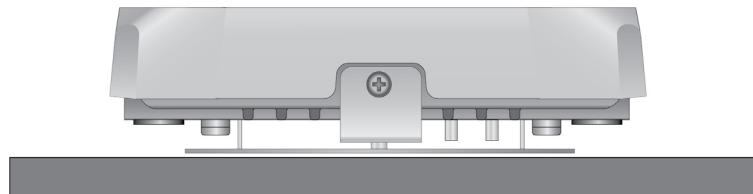

Figure 7. Approved and Unapproved Orientations on a Ceiling, Wall, or Table
- Refer to Figure 7 on page 22 for approved and unapproved orientations of the wireless access point on a table, wall, or ceiling.
1. Choose the location and orientation for the access point on the wall or ceiling. Refer to Figure 7 on page 22.